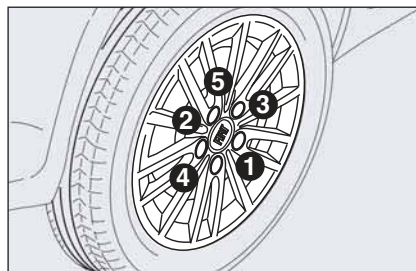

fig. 10
- ☐ Using the wrench provided, fully tighten the bolts in the sequence shown in **fig. 10**;